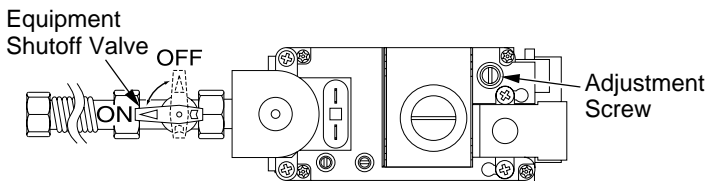

Figure 33 - Turning Equipment Shutoff Valve to the OFF Position
6. Turn equipment shutoff valve clockwise to the OFF position (see Figure 33, page 16). Do not force.
7. Wait five (5) minutes to clear out any gas. Then smell for gas, including near the floor. If you smell gas, **STOP!** Follow "B" in the safety information, above. If you don't smell gas, go to the next step.